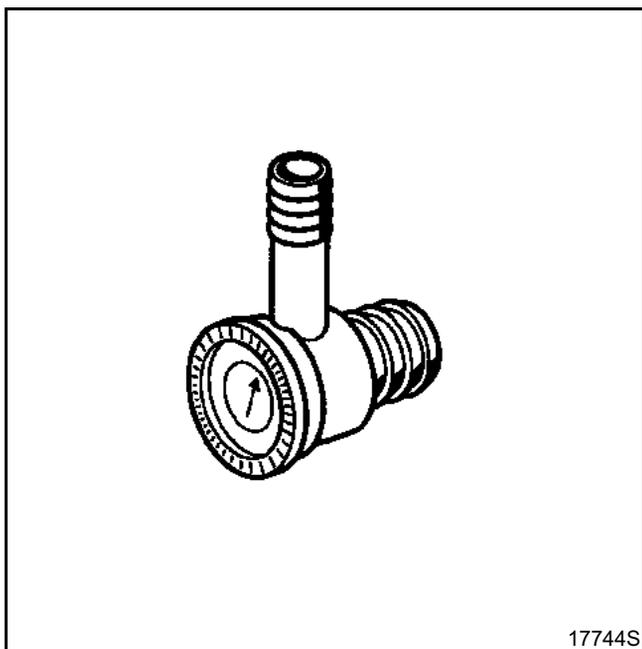

Fig. 2
(Fig. 2 and 3)
- The upper surface of the brake servo non-return valve is concave and its contour is ridged (**Fig. 2**),